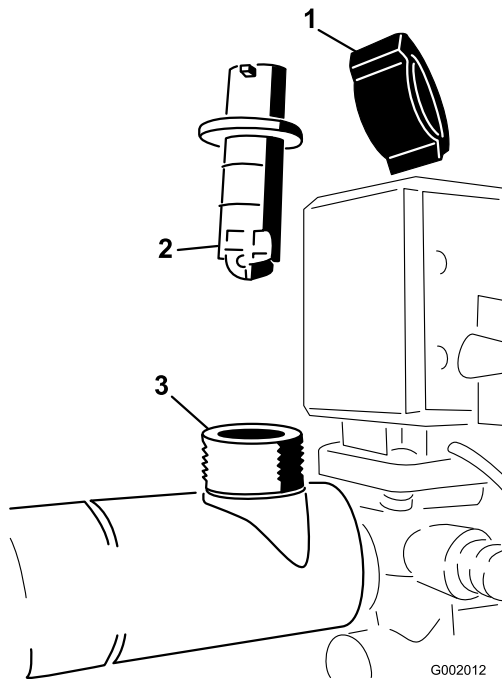

Figure 76
2. Remove the retaining cap from the flowmeter body (Figure 76).